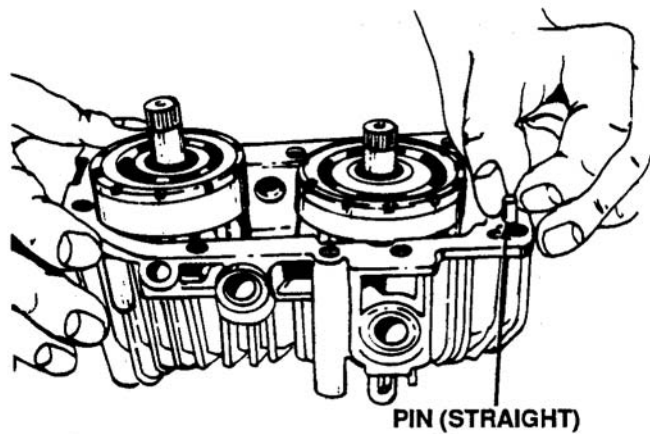

Figure 6-15. Removing Pins
d. Remove locating pins. See Figure 6-15.